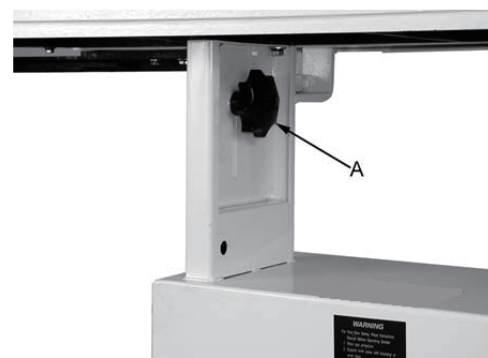

Fig. 12
1. Loosen two lock knobs (A, Fig. 12).